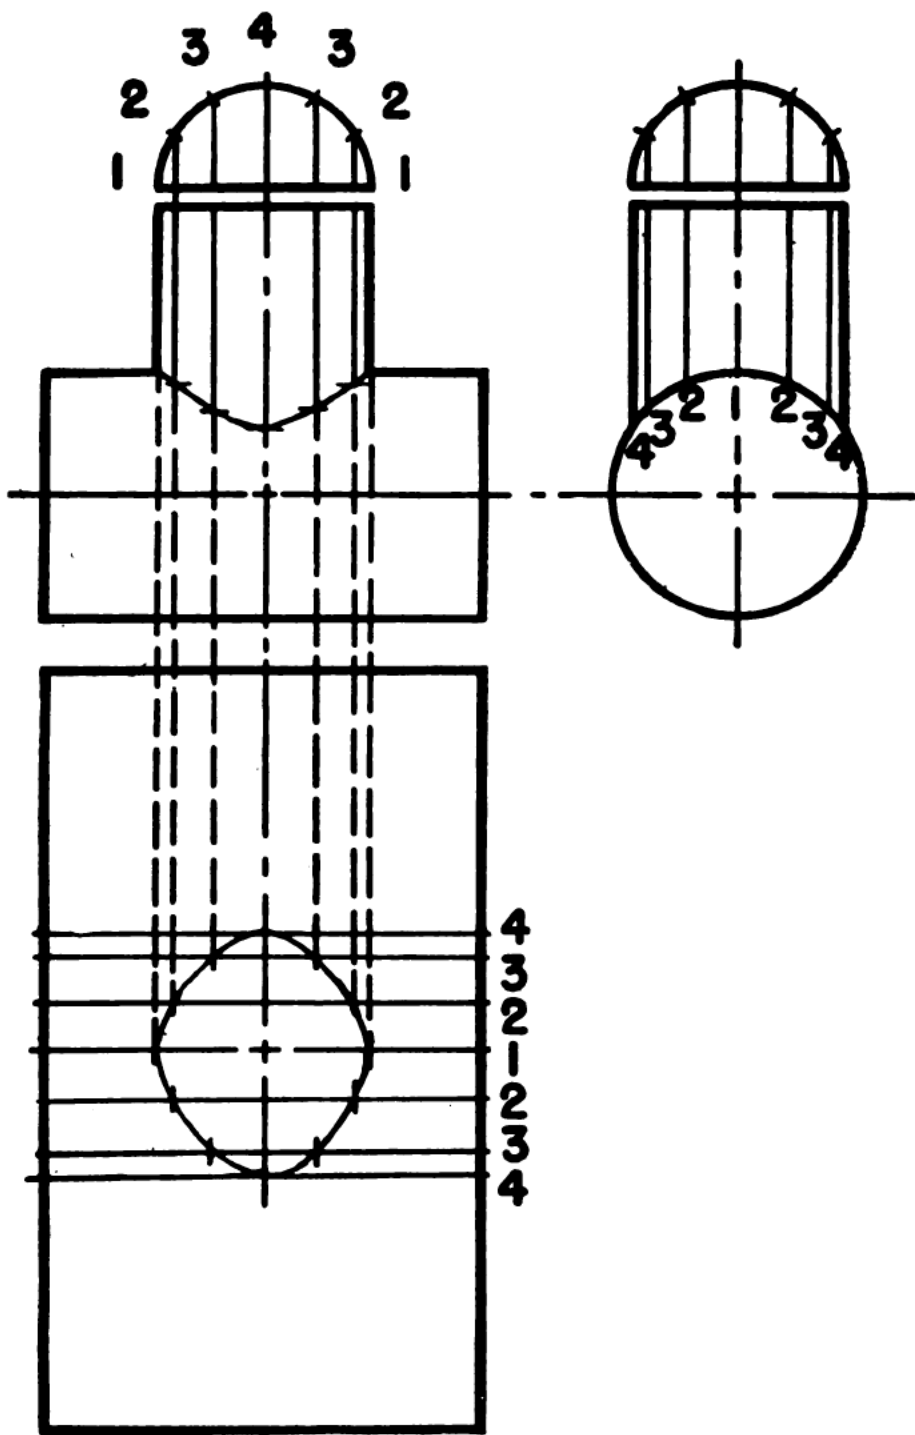

Figure 63.—Stretch-out of the horizontal pipe in a T-joint.
11. Now using the circumference and length of the horizontal pipe for dimensions, draw the stretch-out for the horizontal pipe as shown in figure 63.